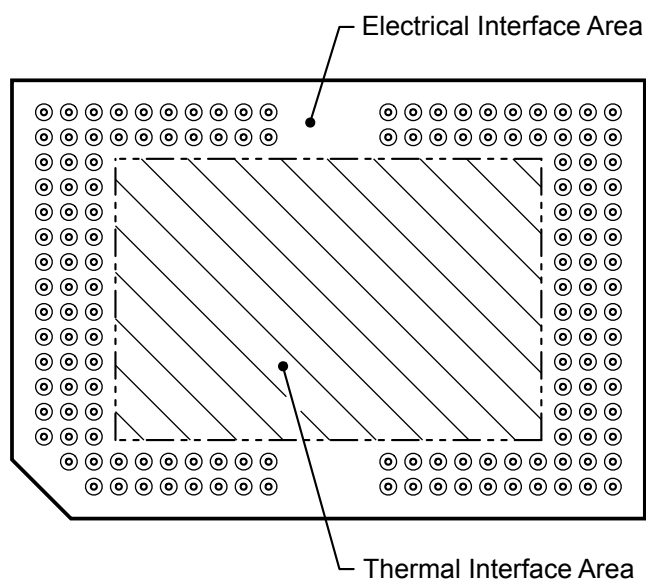

图 5-13. System Mounting Interface Loads
(1) The load should be uniformly applied in the corresponding areas shown in 图 5-13.